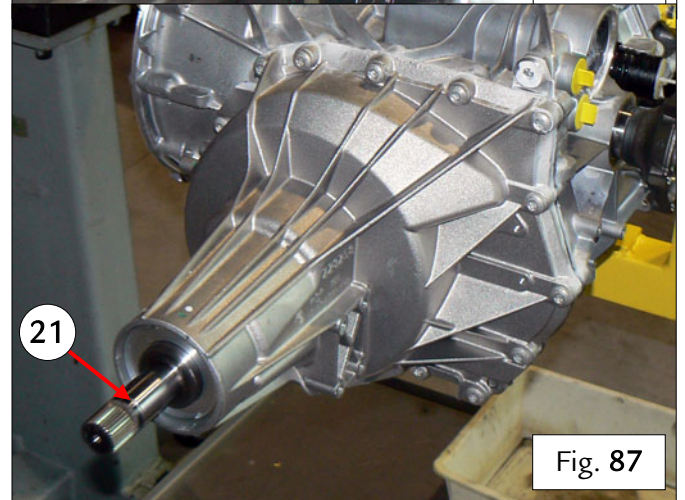

Fig. 87
- Continue to move the differential housing forward slowly, proceeding carefully; a few centimeters before the two components come into contact, if necessary, rotate the front flange (21) slightly to align the components definitively – Fig. 87.